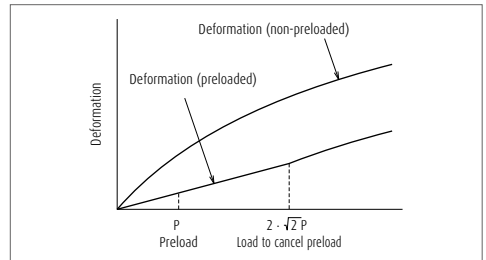

Fig. 3.2 Elastic deformation
- > In general, the load range of ball guide system in which the preload is effective, is about 2.8 times of the preload (**Fig.3.2**). For roller guide system, it becomes about 2.2 times of the preload.